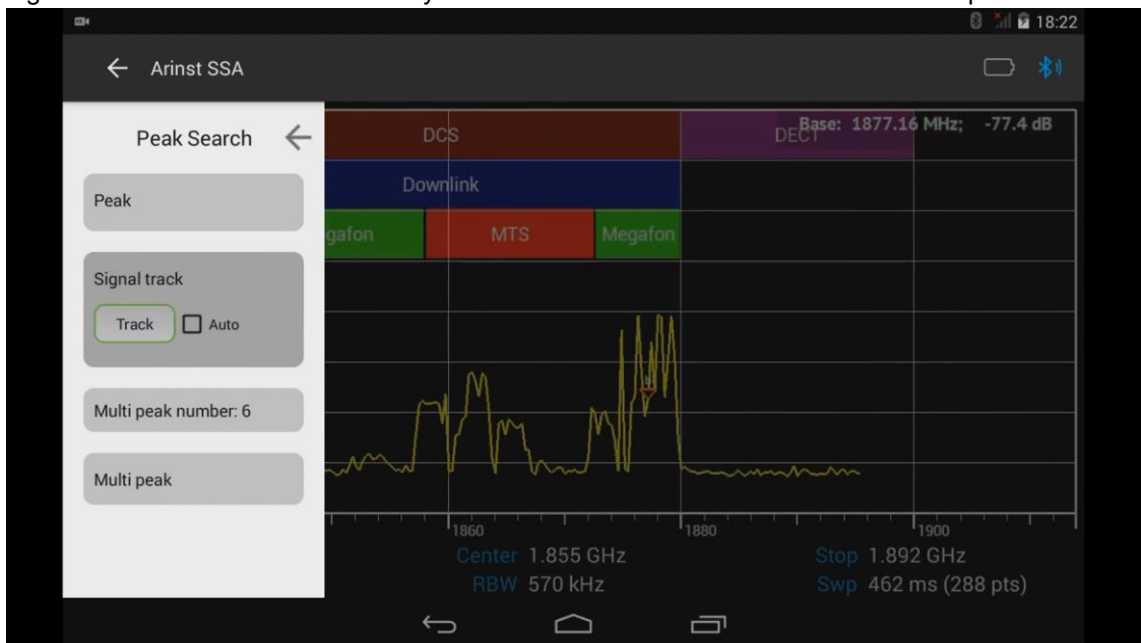

Figure 48 – Automatic installation of the maximum signal marker in the center of the screen
8.8.4. To automatically set the maximum signal level marker in the center of the tablet / smartphone screen, enter the **Signal track** submenu and click the **Track** command, as shown in Figure 48. The maximum signal level marker will automatically be installed in the center of the tablet / smartphone screen.